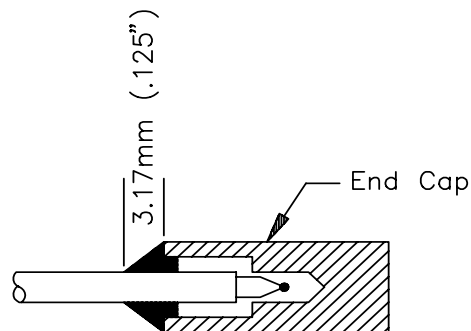

Figure 3
6. Slip end cap on cable as far as it will go. (End cap is milled out so it will not touch center conductor.) See Figure 3.